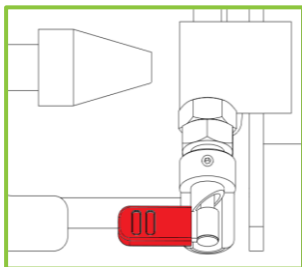

Figure 21 – Plunger Open
2. Turn the levers on the two plungers towards the front of the chair until they latch. The lever arm plungers are now locked in the open position (Fig 21).